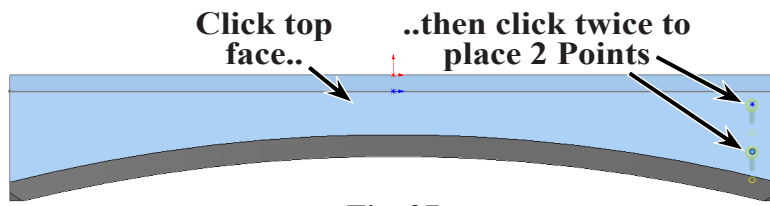

Fig. 27
Step 5. Click **top face** one time as face for holes. Then, click **twice to place two holes inside right edge**, **Fig. 27**.